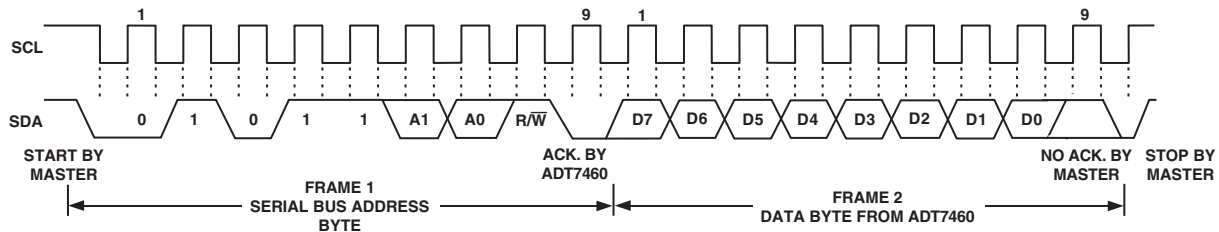

Figure 9. Reading Data from a Previously Selected Register
- A read operation is then performed consisting of the serial bus address, R/\overline{W} bit set to 1, followed by the data byte read from the data register. This is shown in Figure 9.